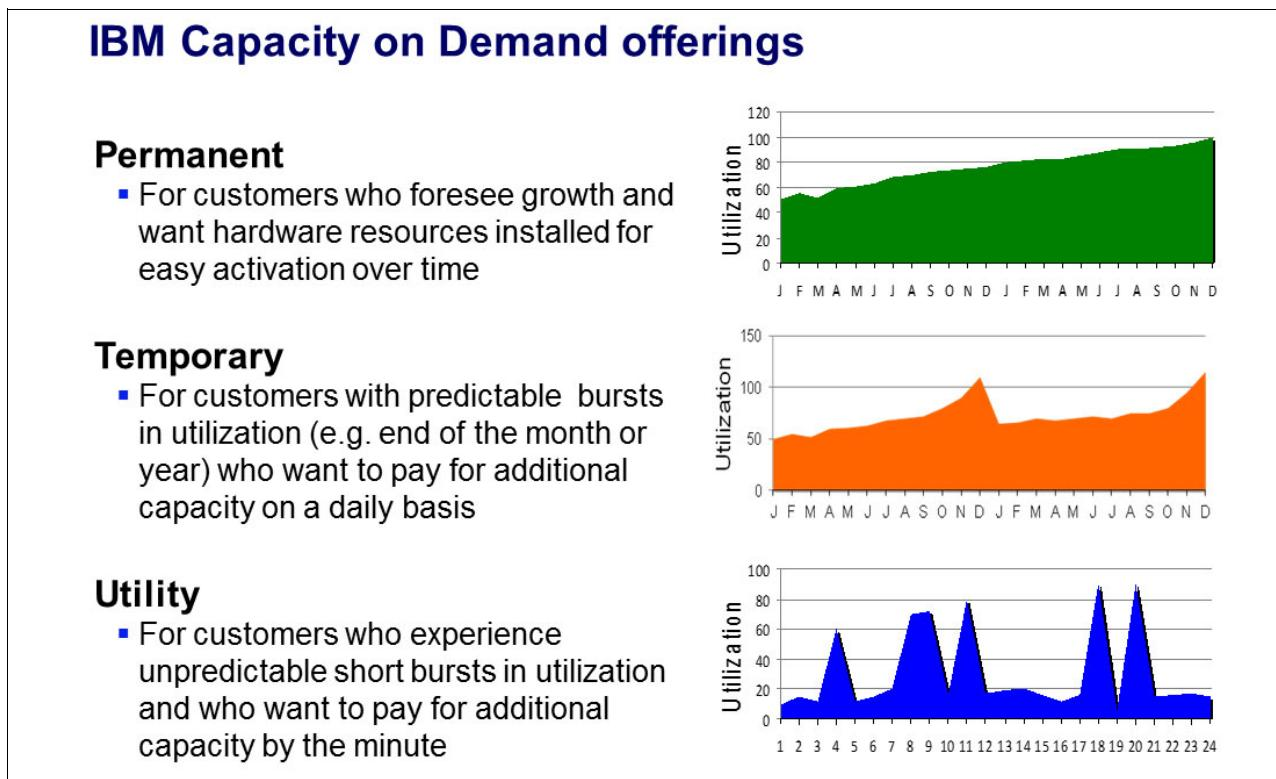

Figure 5-135 Workload patterns for Capacity on Demand
- Based on your current workload and foreseeable growth, the chart in Figure 5-135 can help you decide what CoD offering best fits your needs.